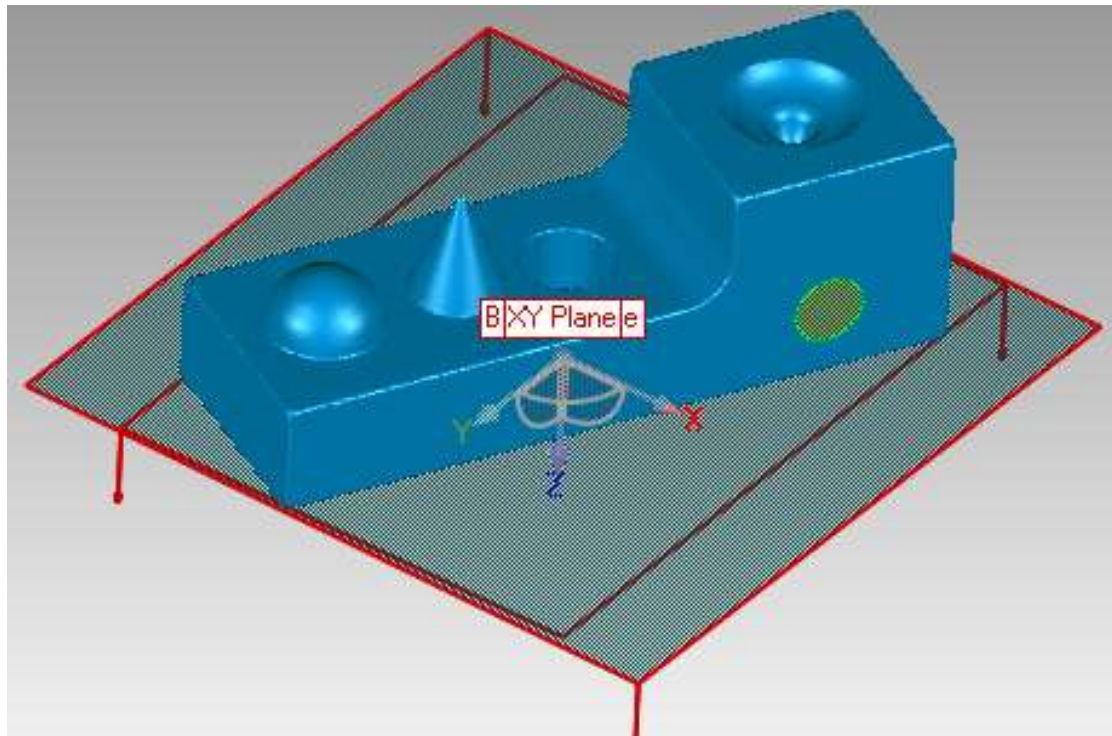

Figure 76
- Click on **Create Pair**, the feature plane named **Bottom Plane** and the world **XY Plane**, will appear in the **Pairs** roll-up group list and update the **Statistics** roll-up group, see **Figure 76**.